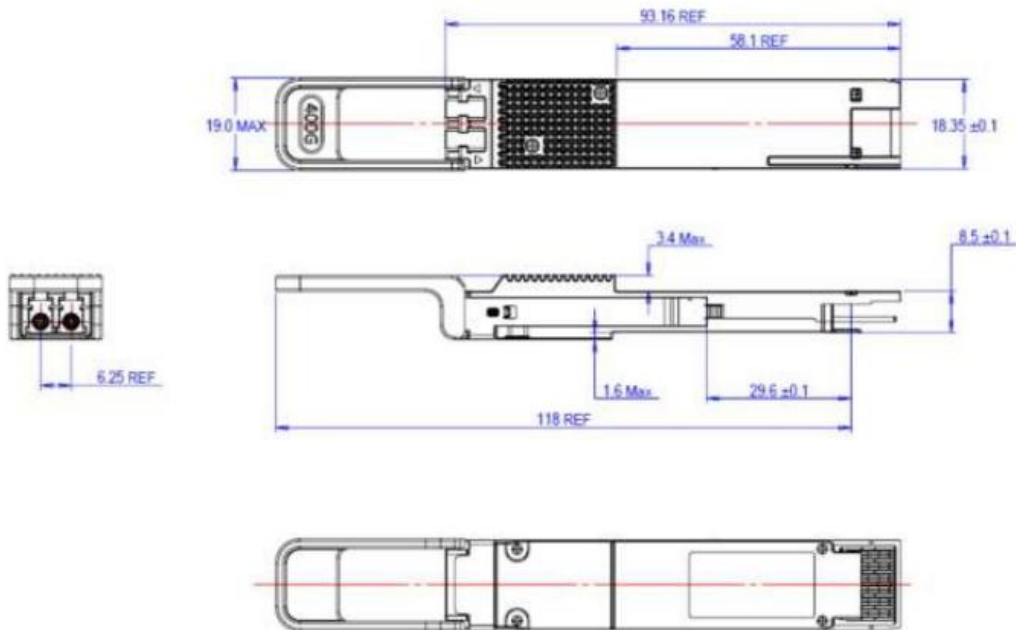

Figure4:QSFP-DD Module Mechanical drawing
The module support loopback functionality. The host loopback (Loopback ①) and the network loopback (Loopback ②) are shown at bellowing figure 4. For details on controlling the loopback mode, please refer to Reference [2]. In optional loopback, TXn is looped back to RXn, for example TX0+ to RX0+, on both host and media side.